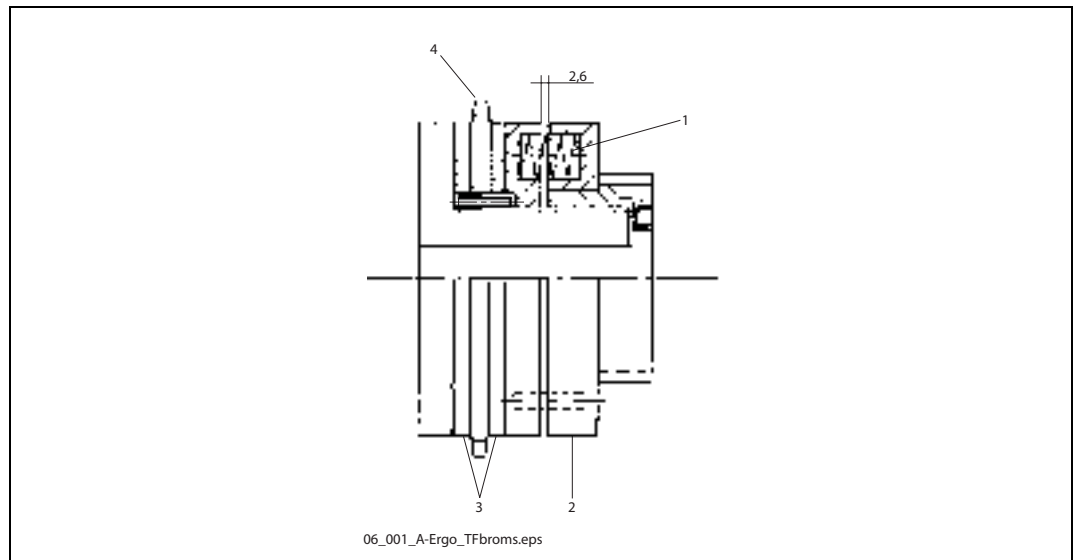

Figure 6.4 Overload clutch
The torque that the overload clutch can transfer is limited by the force the pressure springs, pos. 1, transfer to the pressure plate, pos. 2, and the brake linings, pos. 3, to the sprocket, pos. 4, (see figure 6.4). For adjusting instructions, see "Adjusting the overload clutch (TF)" on page 6.32.